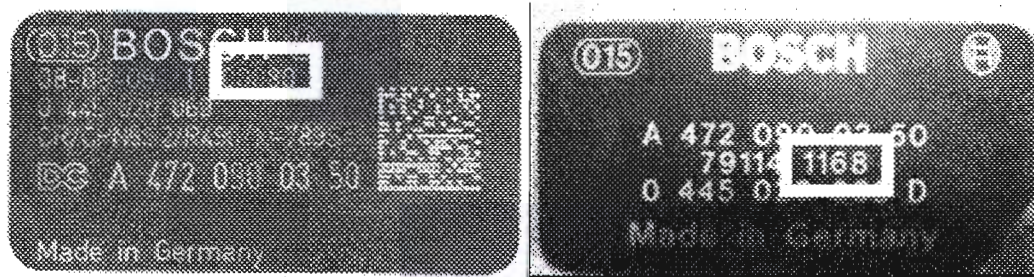

Figure 1 – High Pressure Fuel Pump Identification Tag
2. The number that will identify whether the pump needs to be repaired is found on the identification tag located on the side of the high pressure fuel pump. The four digits that you will need are shown in the two examples in Figure 1. Note the last four digits as shown. If the pump has five digits, use the last four numbers in the series.